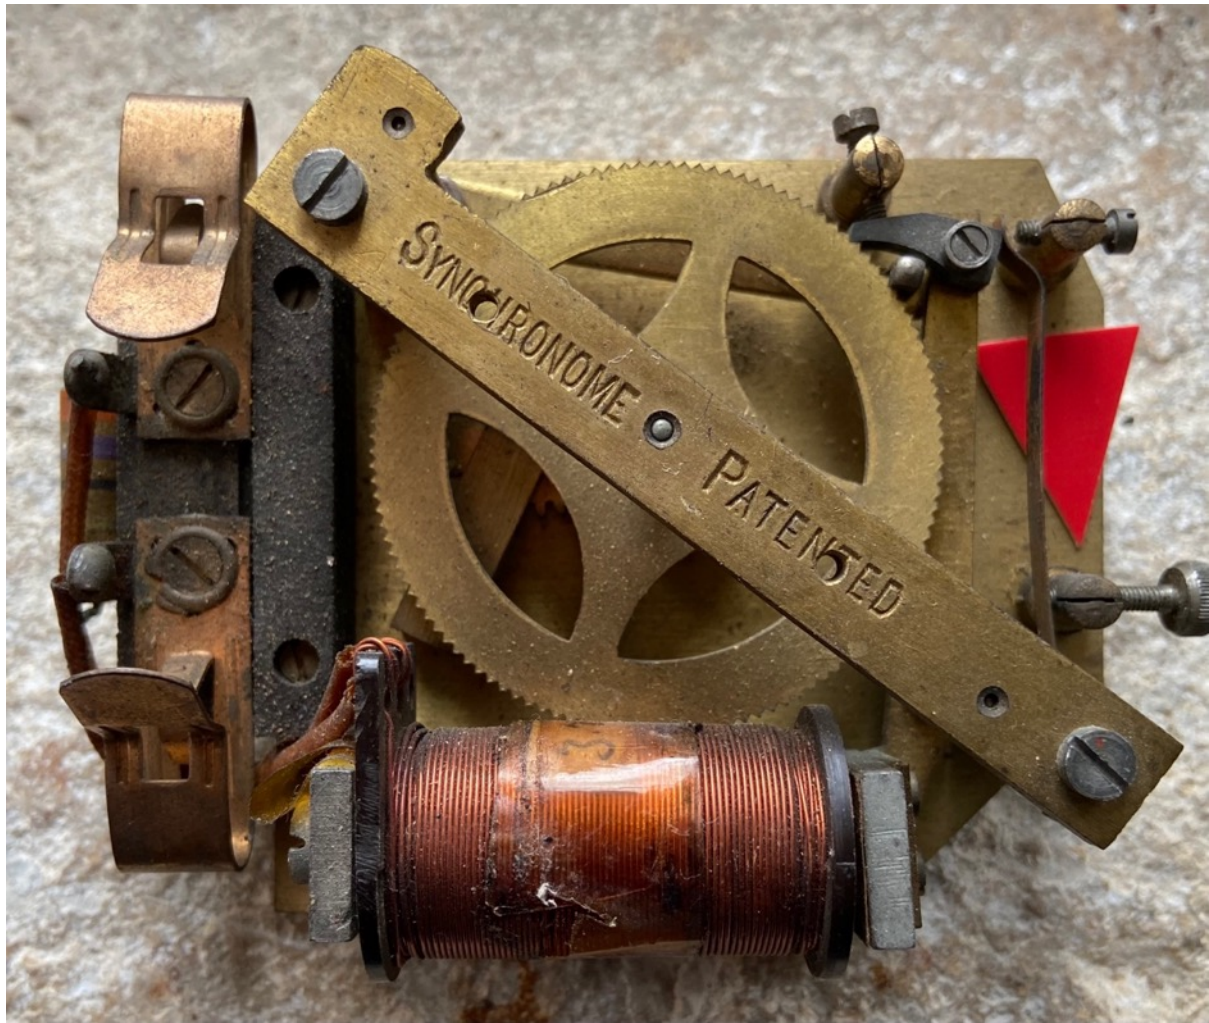

Figure 9 – Armature spring adjuster.
5. Now to set the tension for the armature return spring (Figure 9). This is set to operate at 330 mA normal operational current but should be set as follows. Set the power supply to deliver 330mA through the circuit (typically takes about 1 – 1.5 volts) and check for correct operation. If operation is unreliable, adjust the spring tension accordingly. Then reduce the current to 220mA. The movement should ‘just’ operate at this current. Reduce the tension to achieve this state (note final adjustment may be required when assembled with the hands in place).